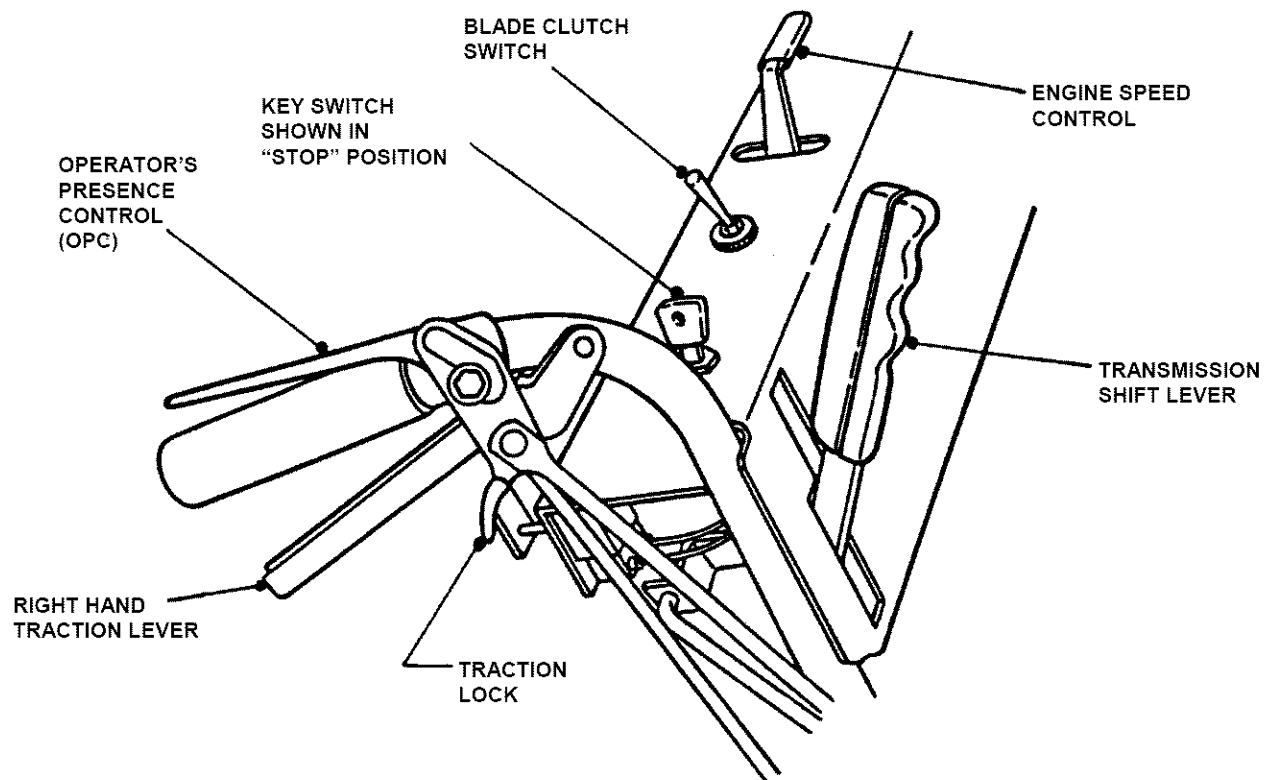

FIGURE 2.1
15. Place the Transmission Shift Lever into the NEUTRAL (N) position.
17. Stop engine. Turn key switch to "Stop" position. Remove key. See Figure 2.1.